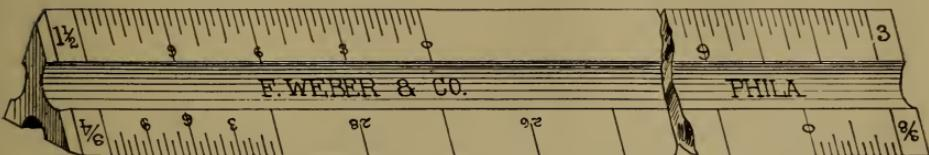

Fig. 22. Triangular Boxwood Scale.
2. SCALES OF DRAWINGS. It is not practical generally to lay out an object to actual dimensions on a sheet of paper of convenient size. Therefore, the object is drawn smaller, say $\frac{1}{2}$, $\frac{1}{4}$ or $1-16$ of the actual size. In order to save time, use is made of a scale, such as shown in Fig. 22, where the lengths are shown to the reduced size. The triangular scale shown has six faces and different scales are marked on each of them.
4. USE OF SCALES. It will be noted that at the end of each face of scale, Fig. 22, 1 ft. is divided into inches and fractions, and on the other side of the zero mark only feet divisions are indicated. To lay off a dimension of feet and inches, for example 2 ft. 3 in., measure from the 2 ft. mark back to 0 and then to the 3 in. mark.